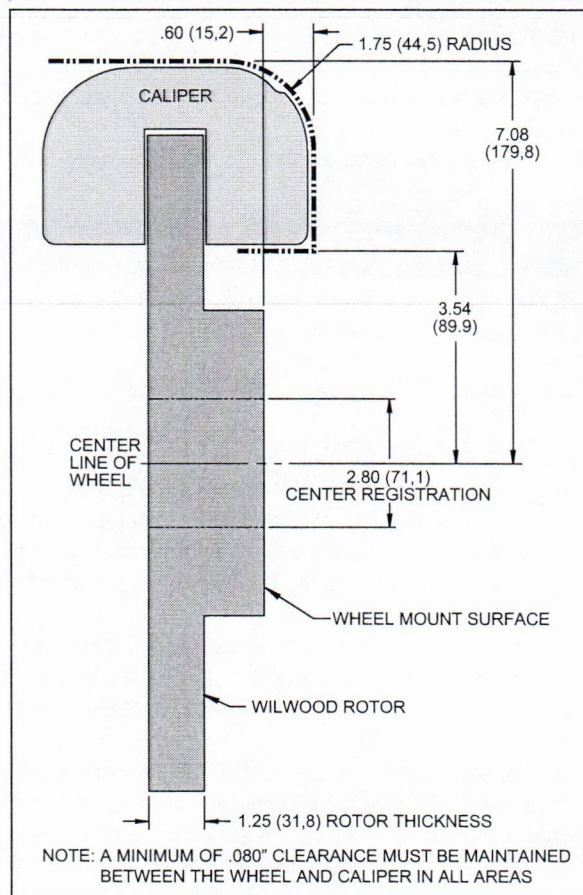

Figure 2. Wheel Clearance Diagram
- Verify your wheel clearance using Figure 2.
- Review the wheel clearance diagram (Figure 2, page 3) to verify that there is adequate clearance with the wheels you will be using with the installation.